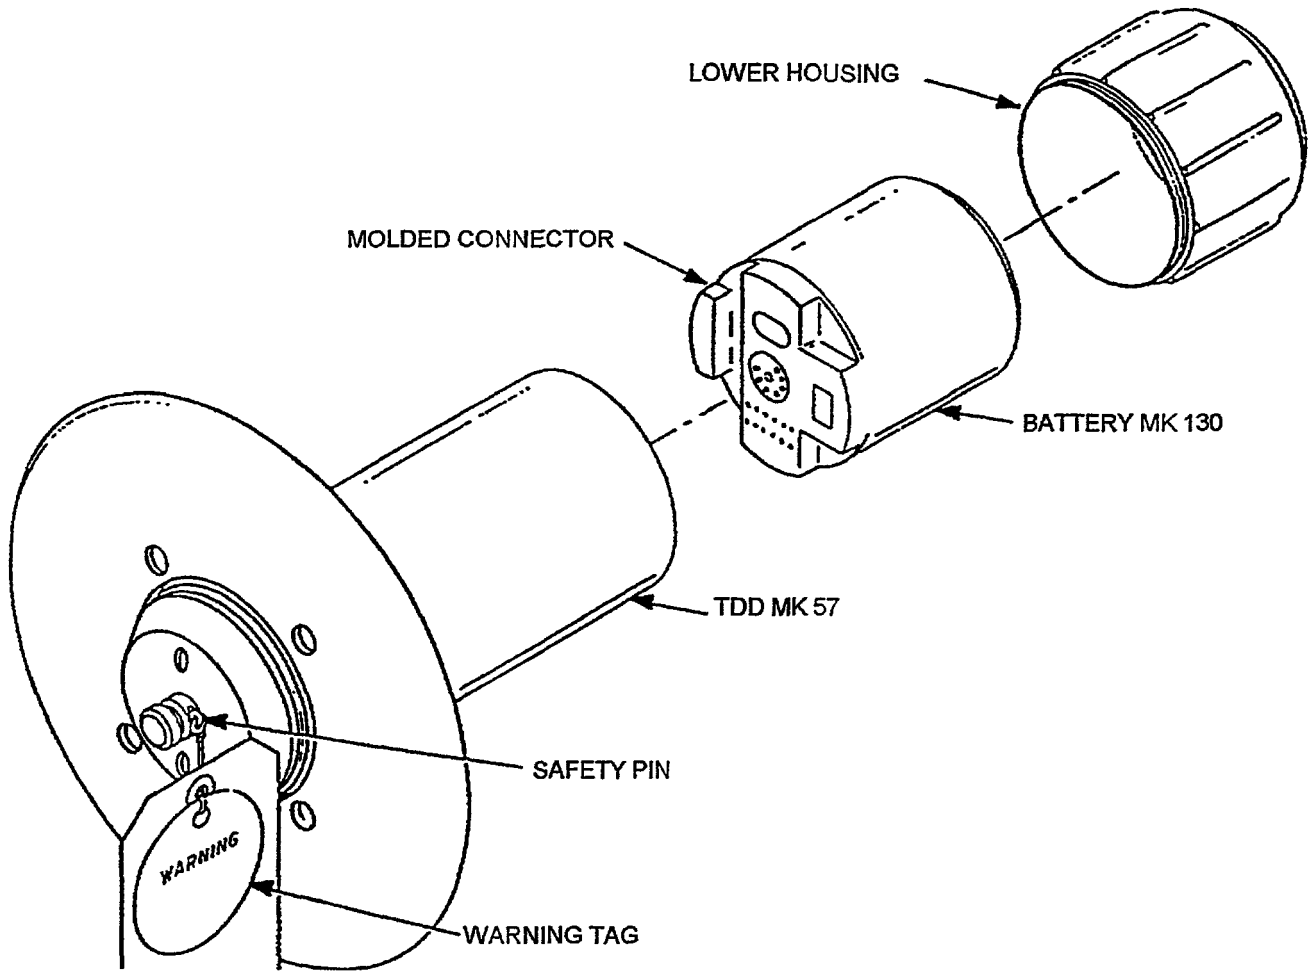

Figure 5-7C. Removal of Battery from TDD
- (4) Connect the 2- by 4-foot antistatic mat to antistatic floor mat using a 5-foot cord with male snaps.
- (5) Connect wrist strap to the 2- by 4-foot antistatic mat using a second 5-foot cord with male snaps.
- (6) Test wrist strap and ground in accordance with OP 5.
- f. Using hands only, unscrew lower housing from TDD (Figure 5-7C).
- c. Unscrew and remove lower housing from TDD (Figure 5-7C).